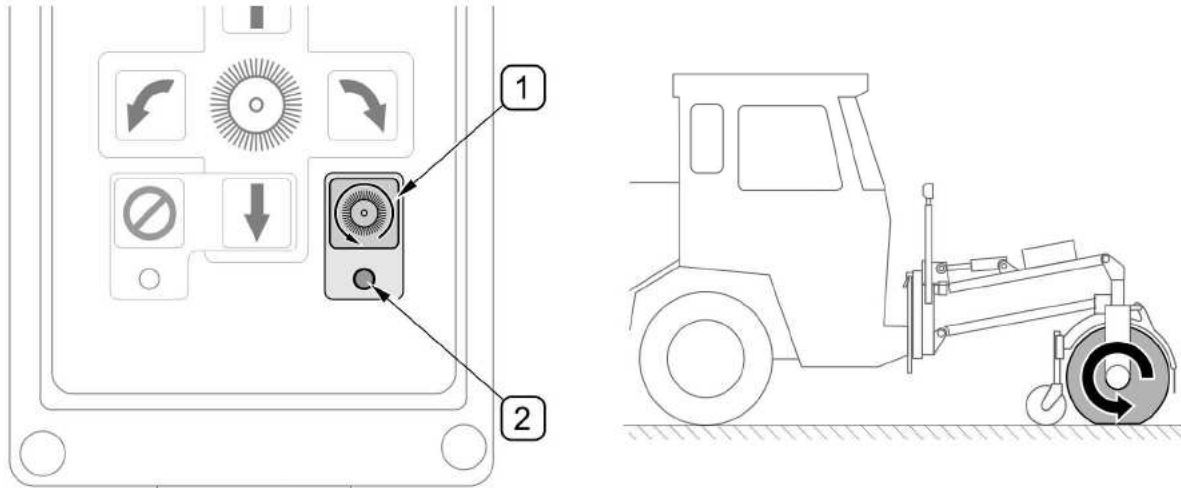

FIG. 4.12 Brush drive switch (ZM-S25)
(1) - brush drive switch; (2) - brush drive ON indicator light;
Brush drive is switched on and off using switch (1) on control panel (FIG. 4.12). When the brush drive is switched on indicator light (2) lights up. Brush rotation direction should be the opposite to direction of vehicle travel (FIG. 4.12.)